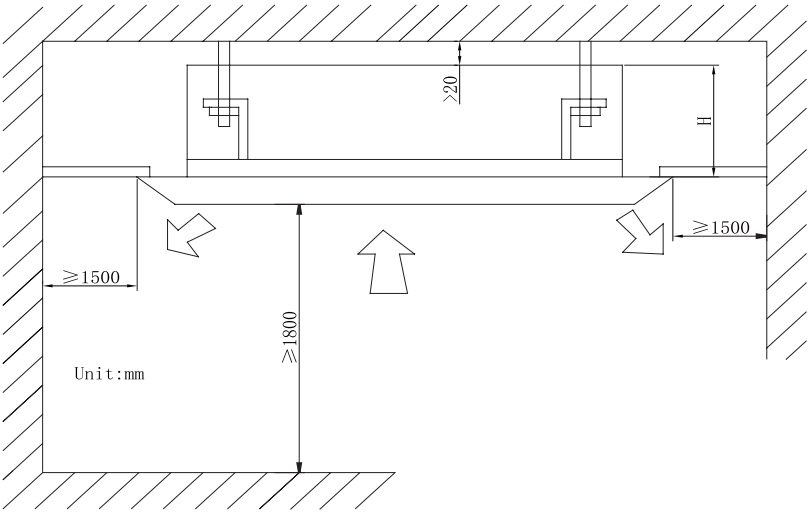

Figure 1-3-7
- Purchase general-purpose hard PVC pipe locally to be used as the drainage pipeline. When carrying out connection, place the end of the PVC pipeline into the drainage hole. Use flexible drainage tube and tighten it with thread loop. Never use adhesive to connect the drainage hole and the flexible drainage tube. (As shown in Figure 1-3-7)